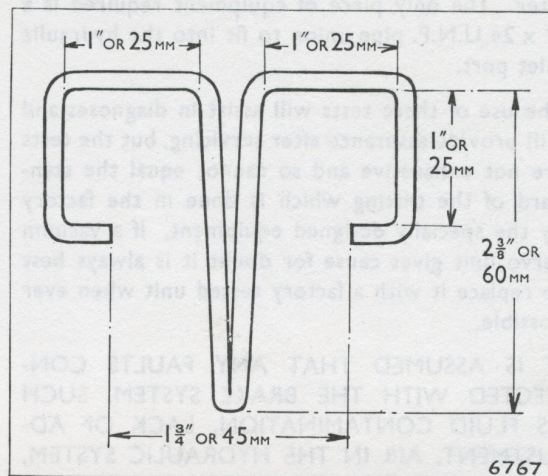

Fig. 21. The compression tool
2. Remove the piston assembly (5) spring (6) gasket (1) and end cover (15) from the vacuum cylinder (19) by removing the transfer pipe retaining plate and seven nuts and bolts while controlling the pressure of the spring (6). When fitted **DO NOT DISTURB THE SCREW AND LOCKNUT IN THE END COVER (15).**
3. Remove the vacuum cylinder (19) and gasket from the cast body (29) by withdrawing three bolts, washers and a clamping plate and easing the grommet in the flange of the cylinder from the transfer pipe (17).
4. Remove the cover and transfer pipe (17) from the valve chest (26) by withdrawing four screws and washers.
5. Remove the valve retainer and flat horse-shoe spring from inside the valve chest (26) by withdrawing two screws.
6. Withdraw the valves (22 & 31) and "Tee" shaped lever (11) complete from inside the valve chest (26) by applying light pressure to the plug (8) in the end of the control piston bore.
7. Remove the cast body (29) from the vice and withdraw the control piston assembly from the top bore by tapping the mounting flange of the cast body on a wooden block.
9. Remove the two seals from the control piston and one from the plug (8).
10. Withdraw the piston rod bearing bush (23) from the output piston bore and using a hooked tool remove the gland seal beneath followed by the nylon spacer (24).
11. Mount the cast body vertically in the vice by one of the mounting lugs and fit the compression tool to press the output piston (25) into the bore. For the compression tool details see Fig. 21.
13. Release the compression tool when the piston spring (27) will push out the washer followed by the output piston (25) the latter is then discarded
- ii Fit a new output piston (25) as the piston rod seal can only be fitted during manufacture and confirm that the taper seal has the larger diameter nearer the reduced end of the piston.
- iii Fit the spring (27) to the output piston (25) feed into the bore, spring first, followed by the washer and hold in position with the compression tool and clip the tool under the mounting flange of the cast body (29).
- v Fit the nylon spacer (25) into the bore, large end first, followed by the gland seal, lip end first and finally fit the bearing bush (23).
- vi Fit the control piston to the bore so the transverse hole aligns with the hole in the valve chest (26).
- vii It is unlikely that the two nylon valves (22 & 31) will need renewing but when it is necessary their faces should be lapped on a piece of glass with fine lapping paste to ensure they are airtight. Fit the valves (22 & 31) and "Tee" shaped lever (11) complete so the horseshoe spring location above the
COMPRESSION TOOL (Fig. 21)